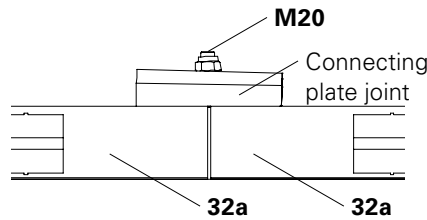

Fig. B3.02a
1. Assemble Rails 100 VARIOKIT (32a) at the connecting plate joint and connect using Bolts M20 x 45. (Fig. B3.02a)